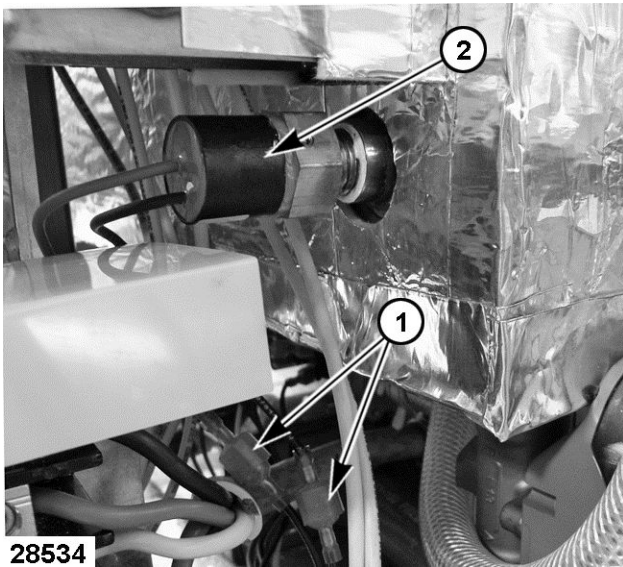

Fig. 34
3. Disconnect electrical lead wires [1] Fig. 34 from hold thermostat.
4. Remove hold thermostat [2] Fig. 34 from steam generator tank.